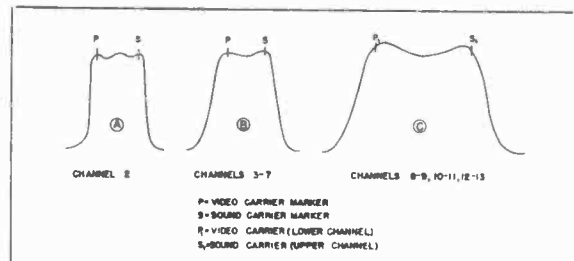

Fig. 16. R-F Alignment Curves
The minimum requirements for correct r-f alignment are (1) to provide the correct bandwidth, (2) for the response curve to be centered within the limit frequencies shown for each of the individual channels as in Figure 16, and (3) for the response curve to be adjusted for maximum amplitude consistent with correct bandwidth. To provide these minimum requirements, the r-f coils are overcoupled and loaded with resistance. Tuning of the coils is affected by changing inductance of the individual coils. Except for the Channels #2 and #3 coils, the coupling is fixed by the design of the coil and switch wafers.
For Channels #2 and #3, the r-f coils should be aligned to give approximately the curve shown in Figure 16-A and 16-B. The "P" marker represents the video carrier marker, while the "S" marker is the sound marker. The frequency of these markers is indicated for each step of the alignment procedure. Adjustment of the bandwidth is made by moving the plate coil closer to the grid coil or vice-versa. On Channel #2 the sliding of the copper rings will give both the required bandwidth and the frequency adjustment. Spread or squeeze turns in plate and grid coils to change frequency. Spreading turns results in a raising of the frequency; while squeezing turns lowers the frequency.